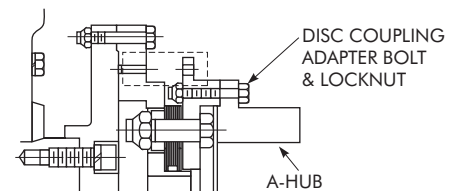

Figure 3c
- F. With fluid coupling suspended from the sling, align the holes of the disc coupling A-Hubs with the holes in the adapters, and insert the adapter bolts on both sides (Figure 3c).
- G. Slowly remove clamping bolts between coupling adapters and input/output adapters to decompress the discpacks. Make sure disc coupling A-Hubs are properly seated in adapter registers (see Figure 3c). Store clamping bolts so they are available if the fluid coupling should need to be removed.